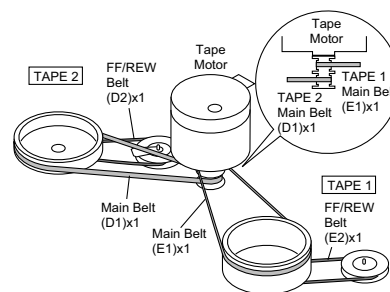

Figure 4
1.4. How to remove the belt (TAPE 2) (See Fig. 4)
1.5. How to remove the belt (TAPE 1) (See Fig. 4)